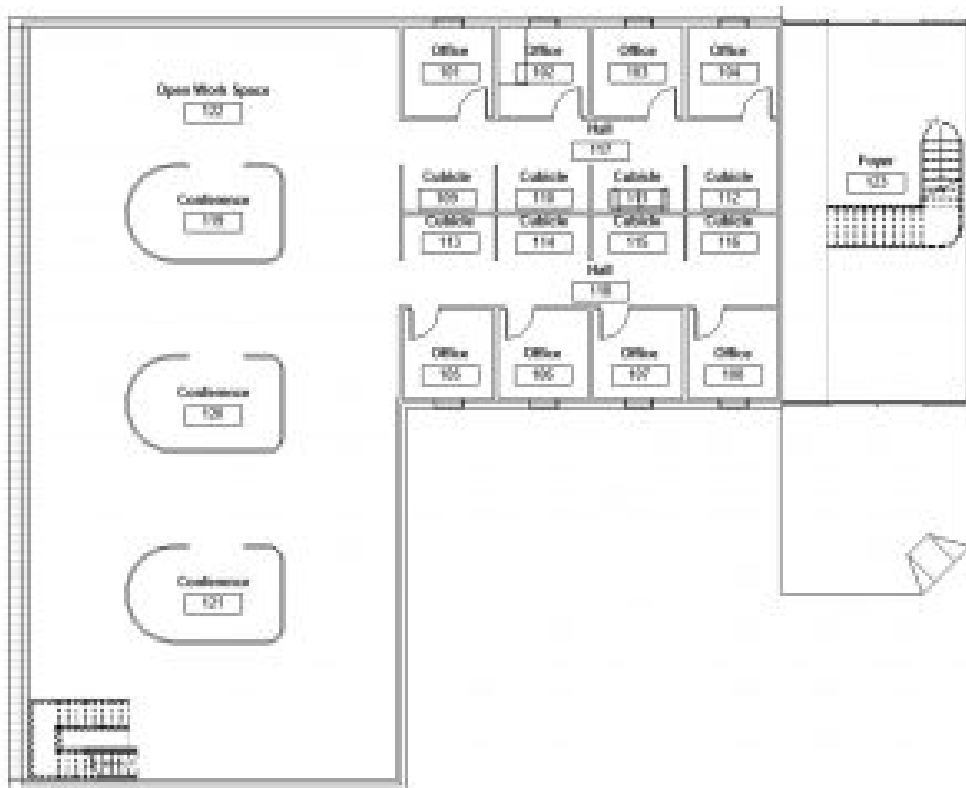

Figure 8.5 Placed rooms
18. Repeat steps 16 and 17 from left to right until all 8 office rooms are placed as shown in Figure 8.5 (Make sure the Tag on Placement is enabled)
19. Place the remaining rooms as shown in Figure 8.5